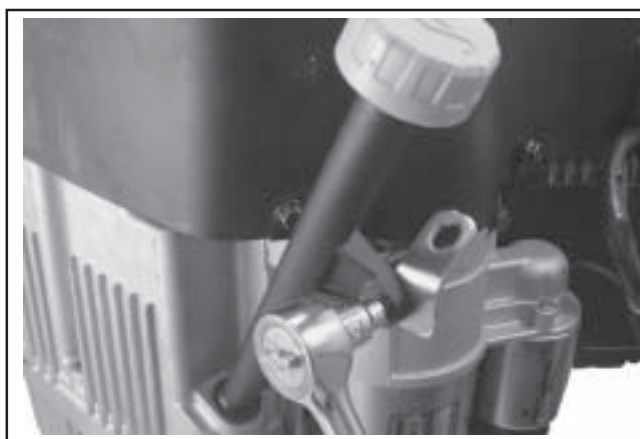

Figure 11-80. Installing Dipstick Tube.
4. Install the dipstick tube and align the mounting hole with the threaded hole in the lift bracket. Secure with the M5 hex flange screw. Torque the screw to **4.0 N·m (35 in. lb.)**. See Figure 11-80.